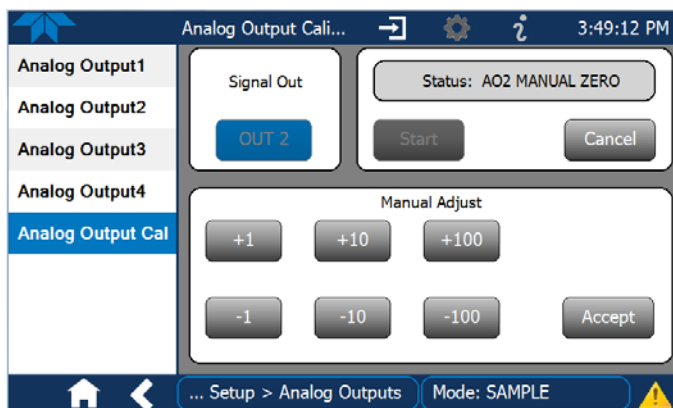
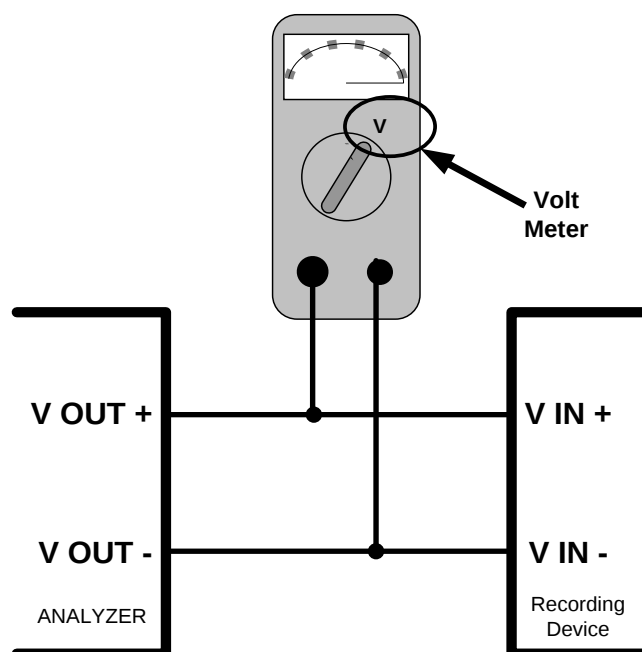

Figure 2-51. Analog Outputs Manual Calibration Screen (AOUT2 Example)
Figure 2-52. Setup for Checking / Calibrating DCV Analog Output Signal Levels
- MANUAL for individual calibration (Figure 2-51) of analog outputs where manual adjustments can be made (the only calibration type allowed when Current is selected for the Range). See Sections 2.5.8.1 and 2.5.8.2 .
It is possible to manually calibrate the voltages by using a voltmeter connected across the output terminals (Figure 2-52) and changing the output signal level in the Manual Adjust field of the Analog Outputs Calibration screen (Figure 2-51). Refer to Table 2-13 for voltage tolerances.